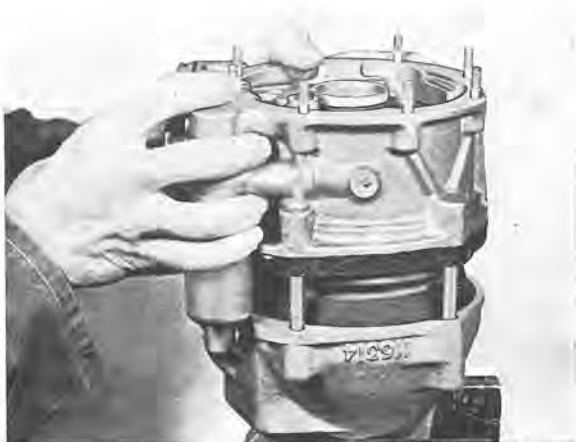

Fig. 4-47. Disassembling overdrive
3. Unscrew the nuts holding the brake ring, front and rear casing. Loosen the nuts successively all round in order to avoid any distortion from the springs. Lift off the front casing and brake ring, see Fig. 4-47.